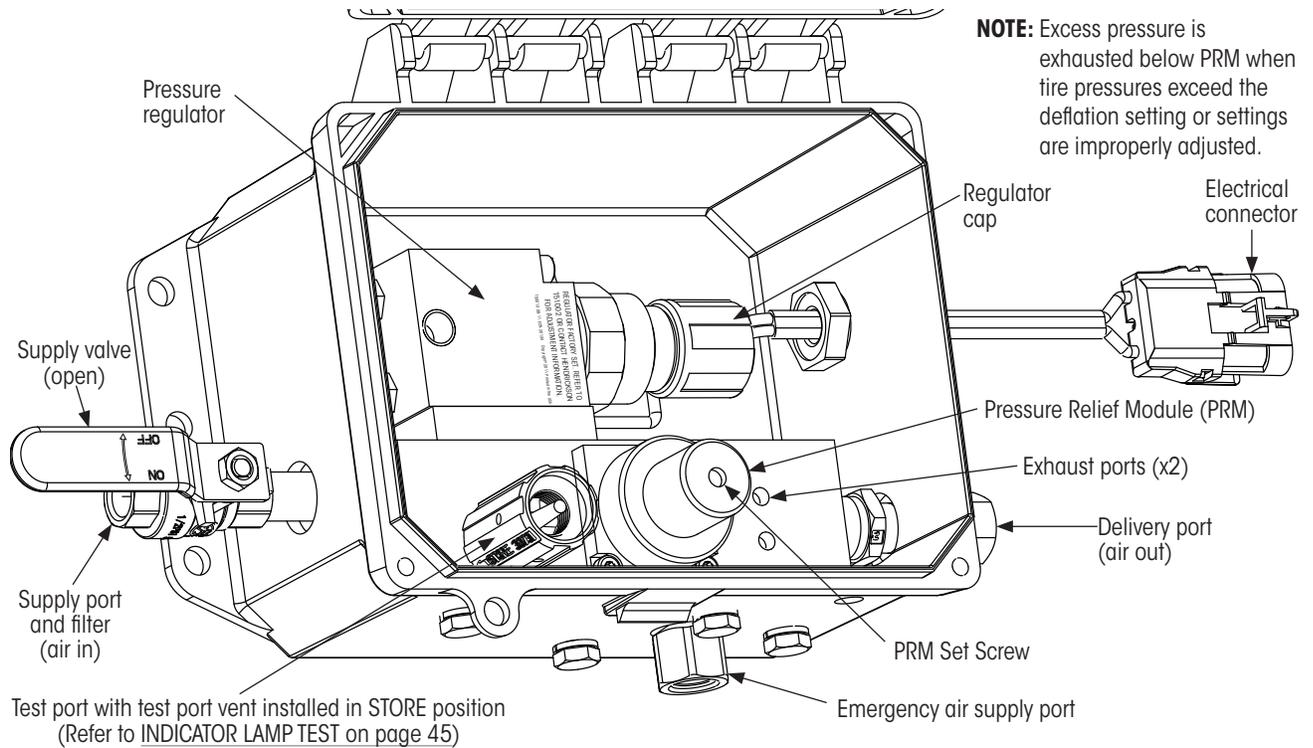

Figure 54: Setting TIREMAAX[®] PRO Inflation Pressure and Deflation Pressure
5. **Open** controller cover and **remove** test port vent, if included, Figure 54.
This adjustment is set at the controller regulator (Figure 54 on page 49).
This setting is performed at the controller's PRM (Figure 54 on page 49). For proper operation, Deflation Pressure must be set to 10 psi above Inflation Pressure.
7. **If adjustment is needed, use** 1/8 inch Allen wrench to **adjust** PRM set screw (Figure 54). (A quarter turn is approximately 5 psi.)
3. **Reinstall** the test port vent (Figure 54) in the store position.